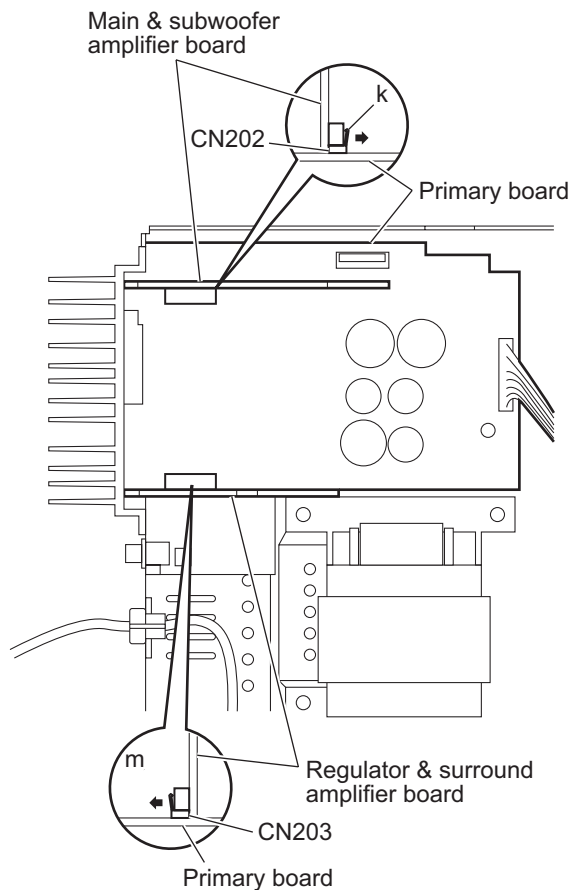
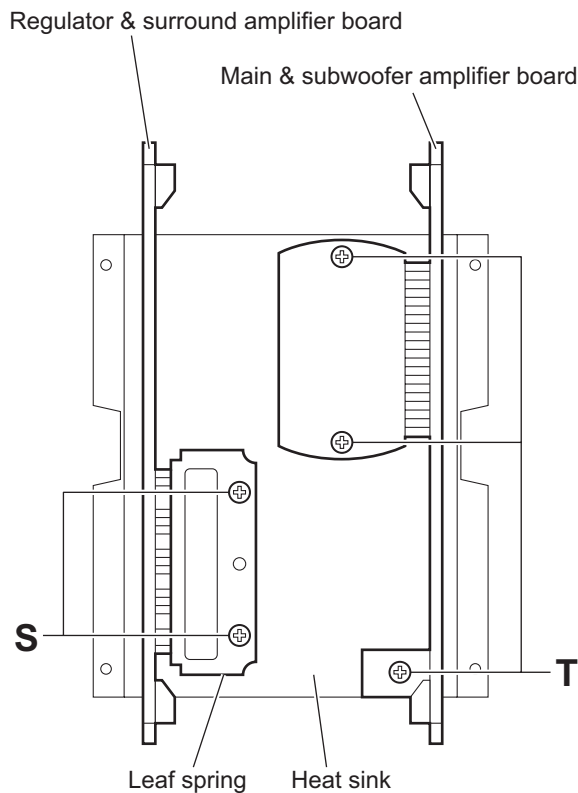

Fig.20
Fig.21
3.1.12 Removing the regulator & surround amplifier board and main & subwoofer amplifier board (See Figs.20 and 21)
- (1) From the top side of the main body, disconnect the regulator & surround amplifier and main & subwoofer amplifier boards in an upward direction while releasing the locks (**k**, **m**) of the connectors (CN202, CN203) on the primary board. (See Fig.20.)
- (2) Take out the regulator & surround amplifier and main & subwoofer amplifier boards at the same time from the main body.
- (3) Remove the two screws **S** attaching the leaf spring to the heat sink and remove the regulator & surround amplifier board from the heat sink. (See Fig.21.)
- (4) Remove the three screws **T** attaching the main & subwoofer amplifier boards to the heat sink. (See Fig.21.)